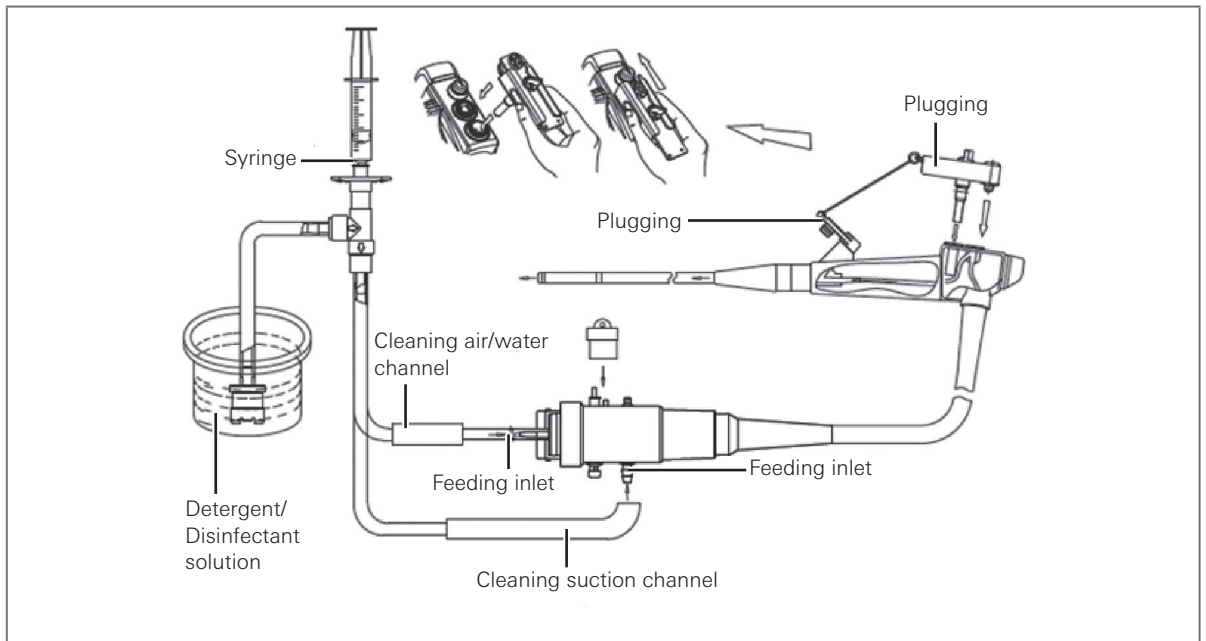

Figure 5.3
- b. Use a 50 mL syringe to respectively inject detergent into the air/water channel and suction channel of the endoscope through the injection tube at least 4 times (200 mL) (as shown in Figure 5.3). Use a 50mL syringe to inject detergent into the auxiliary water channel through the auxiliary water port at least 4 times (200 mL) (applied only to the waterjet endoscope).